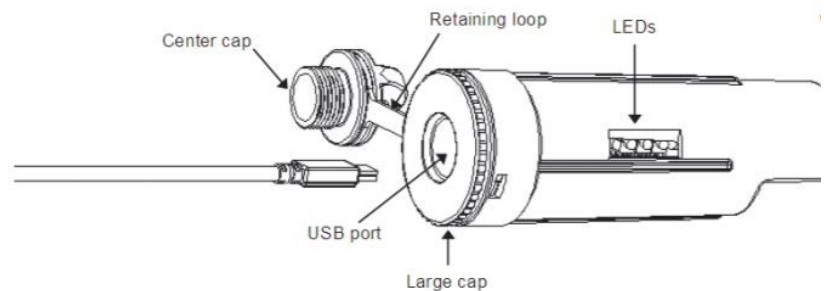

Figure 41. Water shuttle and USB cord
2. Plug the small end of the USB interface cable (black cord) into the USB port in the shuttle (Fig. 41).